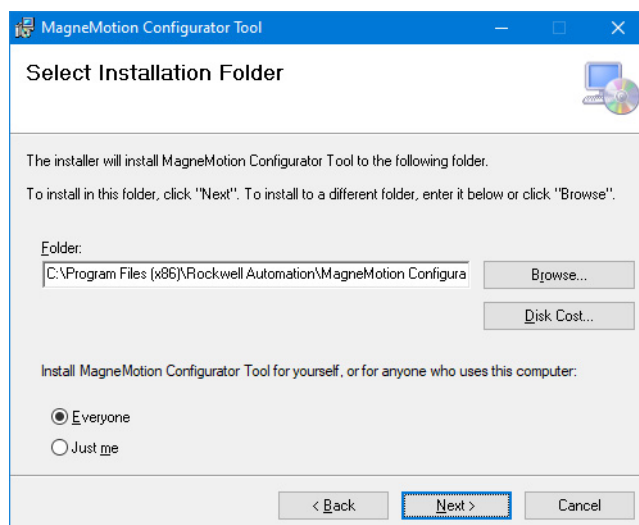

Figure 2-2: MagneMotion Configurator Tool Installation Setup
*The **MagneMotion Configurator Tool** setup wizard prompts for an installation path and usage permissions, see Figure 2-2.*